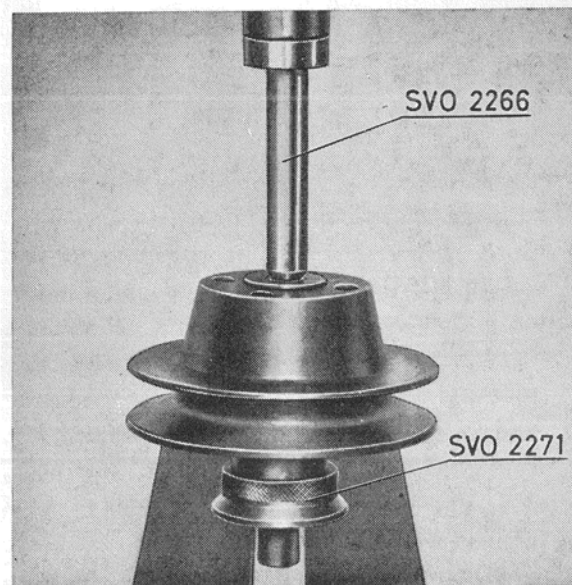

Fig. 75. Removing the pulley.
3. Remove the oil slinger. Place the fixture SVO 2271 in the press with the large diameter downwards. Press down on the shaft with tool SVO 2266 through the fixture whereby the pulley, ball bearing and spacer come loose, see Fig. 75.
2. Place the spacer sleeve in position, turn the shaft and then press on the second ball bearing with fixture SVO 2271. Turn the ball bearing so that the open side faces the spacer sleeve. A fixture should be located as shown in Fig. 75 and the press tool applied directly to the pulley but with the earlier mentioned 7 mm long rod against the shaft in the case of long pulleys. Fit the lubricator in the housing.